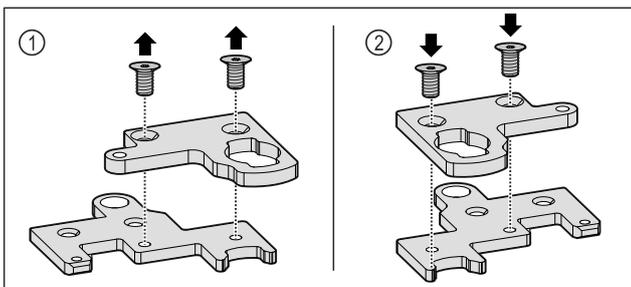

Fig. 27
- ▶ Disassemble the two-part hinge bracket. Fig. 27 (1)
- ▶ Reassemble the two-part hinge bracket rotated by 180°. Fig. 27 (2)